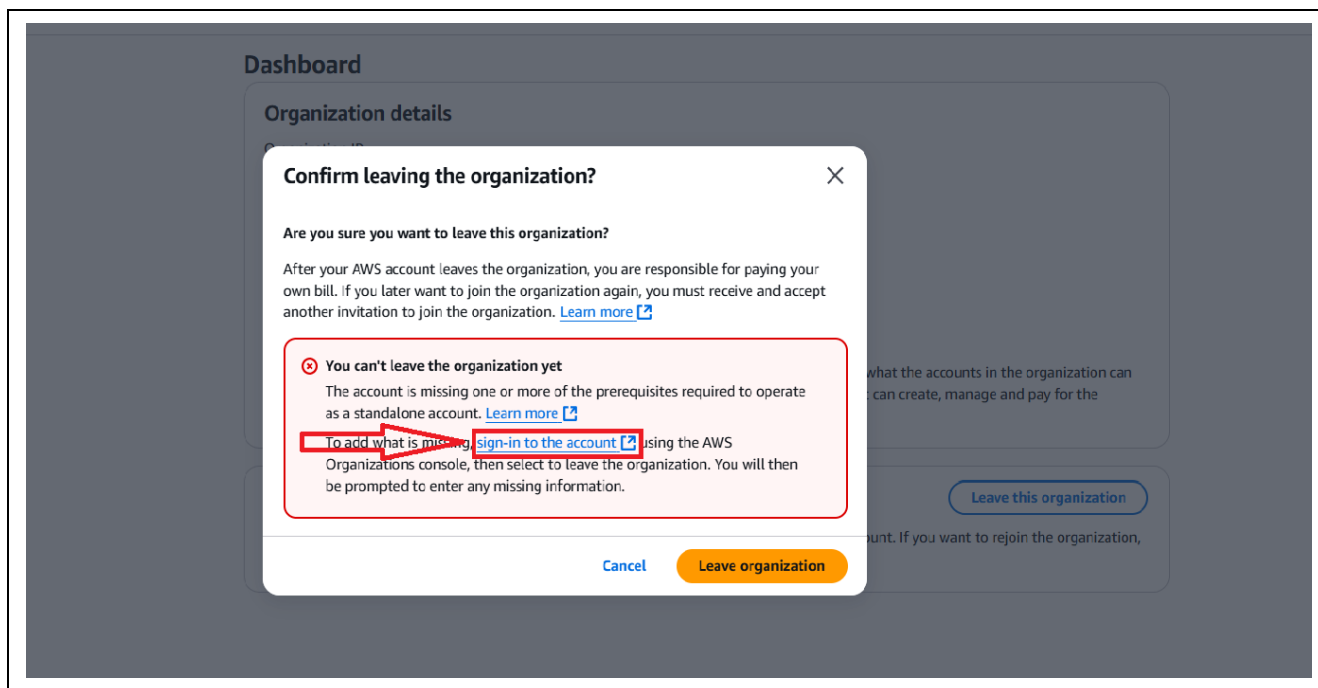

Figure 201. AWS Sign up process
1. Go to the user profile as shown in Figure 201.